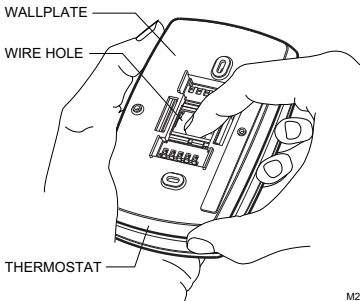

Fig. 2. Separate wallplate from thermostat.
1. Separate the wallplate from the thermostat. See Fig. 2.